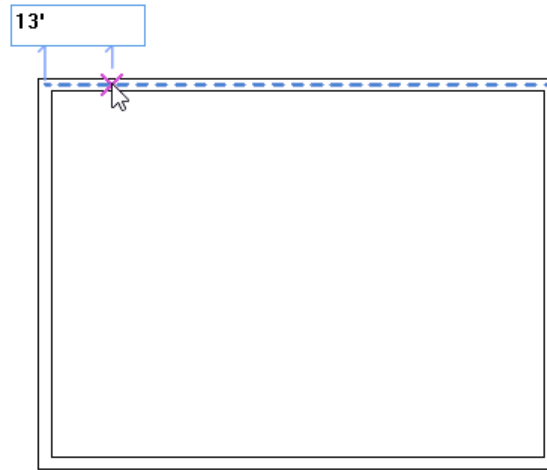

Figure 3-81 Entering the value in the edit box
1. To sketch the interior wall, move the cursor to the upper left corner of the exterior wall and then move the cursor horizontally toward the right. Enter **13'(3962 mm)** in the edit box as shown in Figure 3-81, when the temporary dimension and the intersection object snap appears. Now, press ENTER; the start point of the interior wall segment is specified on the upper horizontal exterior wall.